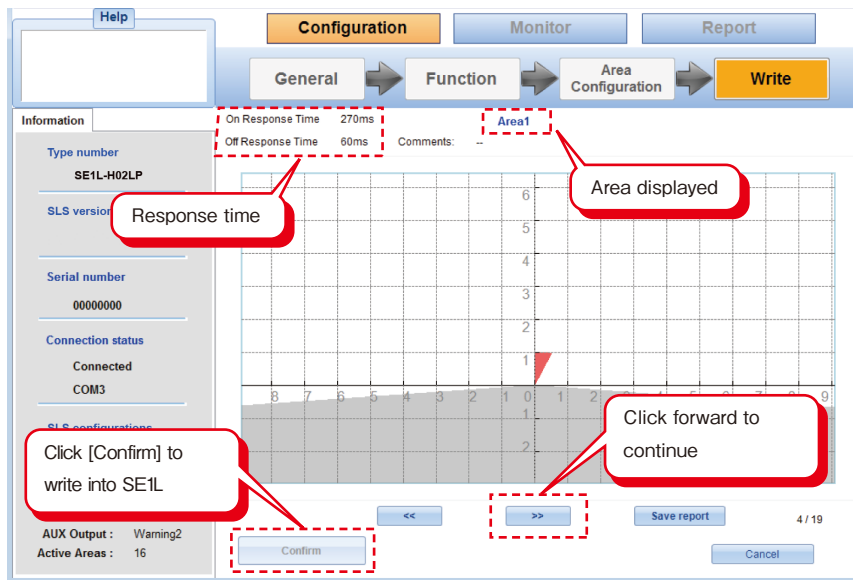

Figure 7-54. Area confirmation window
h) A window displaying all the configured areas as shown in figure 7-54 will be displayed. Please check all the configured areas by clicking the forward button. Click [Confirm] if all the areas are correctly configured. The [Confirm] button will be activated after all the areas are verified by user.